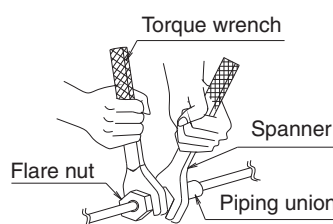

Fig. 6
- Be sure to use both a spanner and torque wrench together, as shown in the drawing, when connecting or disconnecting pipes to/from the unit. (Refer to Fig. 6)